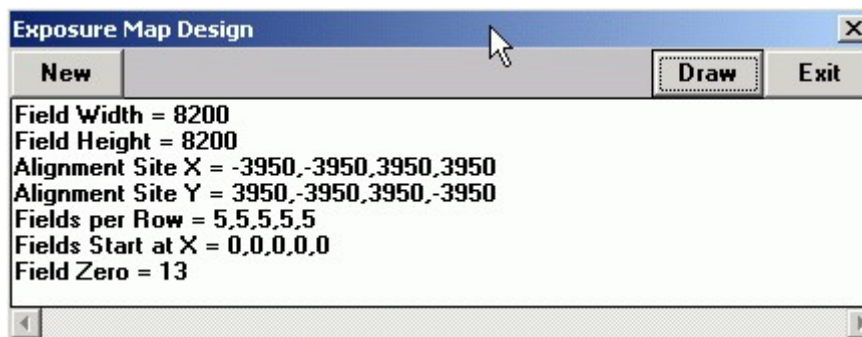

Figure 4-1: Exposure Map with alignment
2. **DWL Menu- Exposure Map Design:** Fill in the coordinates and “Exit” and save the Exposure Map. See Figure 4-1 for an example.